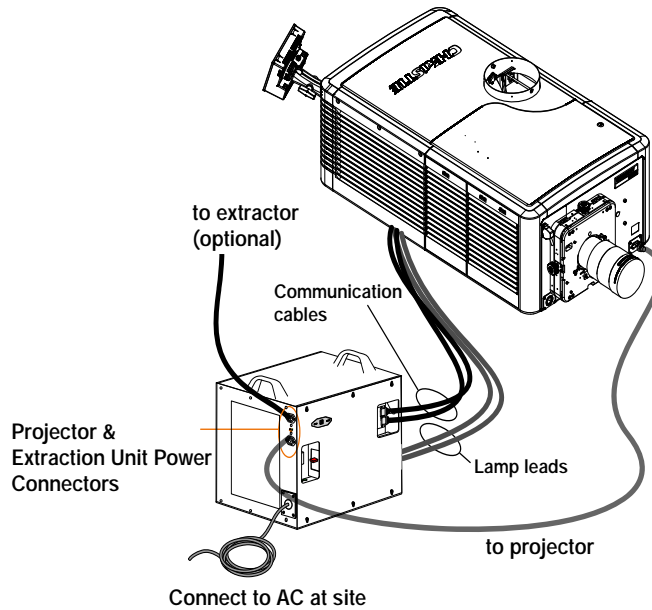

Figure 2-23 LPS Connection
- Using the line cord provided with the LPS, connect one end into the power connector labeled “Projector ONLY” and the other end into the plug on the projector’s front bezel (**Figure 2-23**).